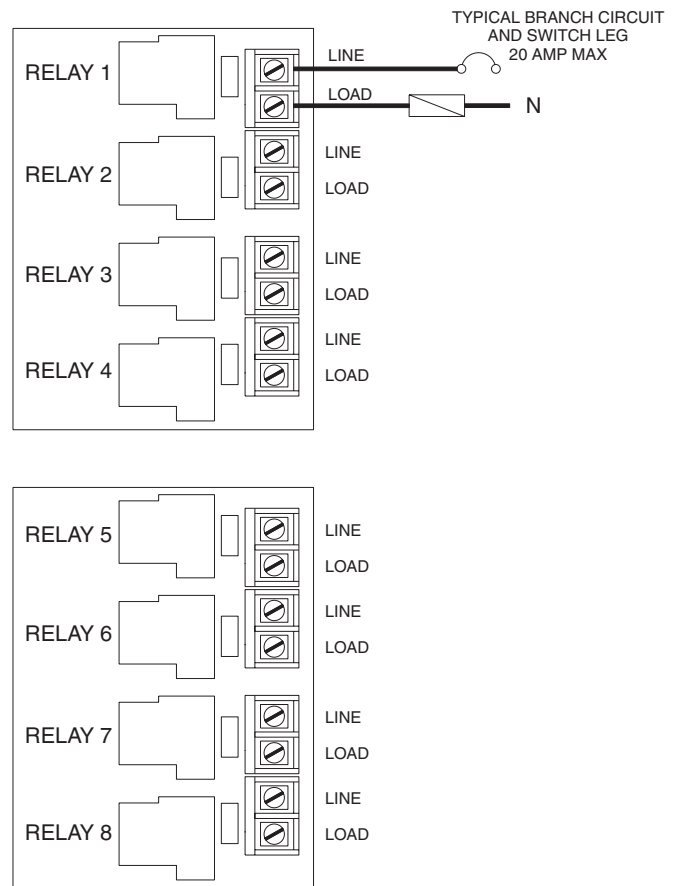

Figure 4 - Load Connections 8S (8 Single Pole)
2. Connect the load to the output terminal block position labeled LOAD. See *Figure 4* for details.